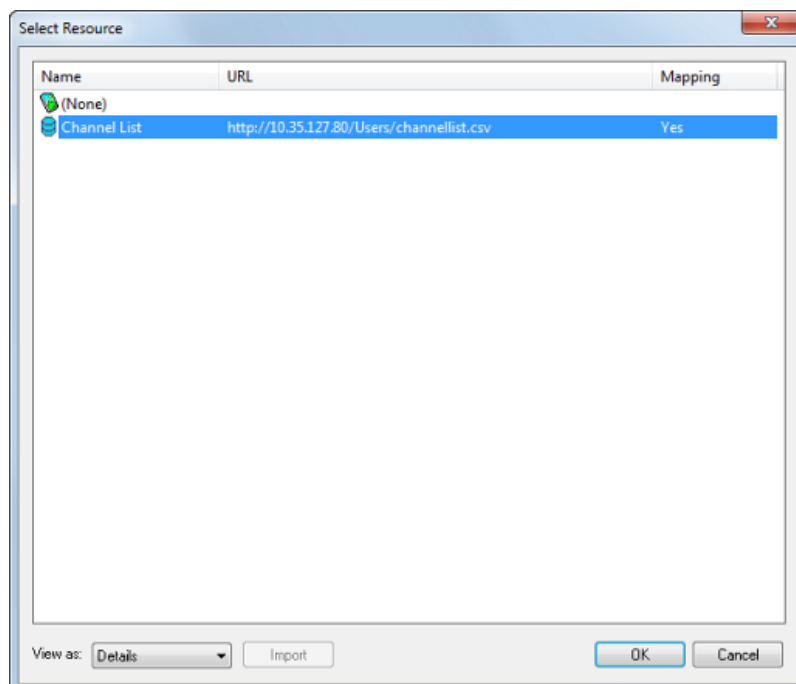

FIG. 130 Select Resource dialog.
2. Select the file to use as the Data Source for the selected Listview button (see "*Channel List*" in FIG. 130):